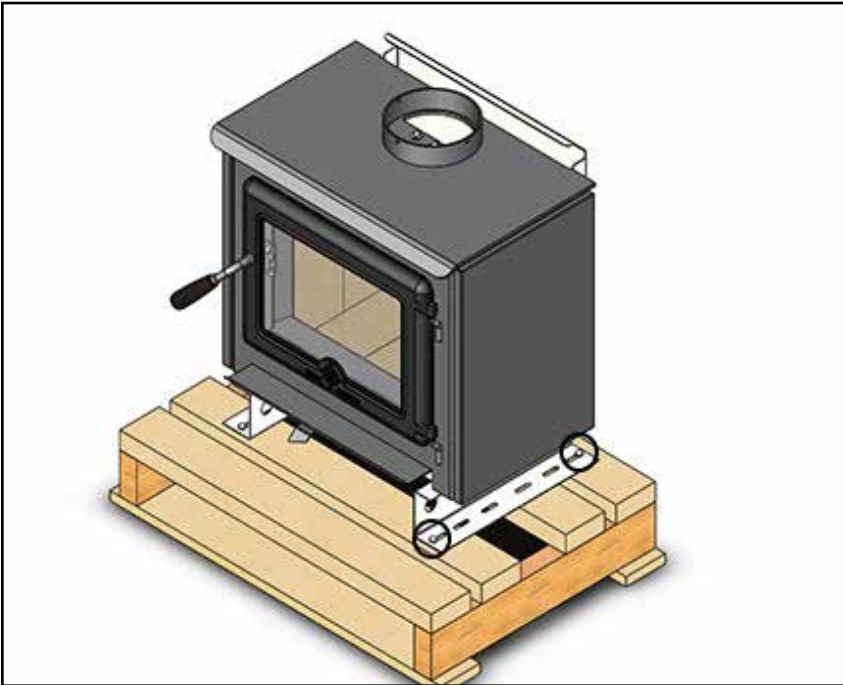

Figure 3: Lag screws.
3. Remove the four lag screws securing the pallet brackets to the crate bottom. Figure 3